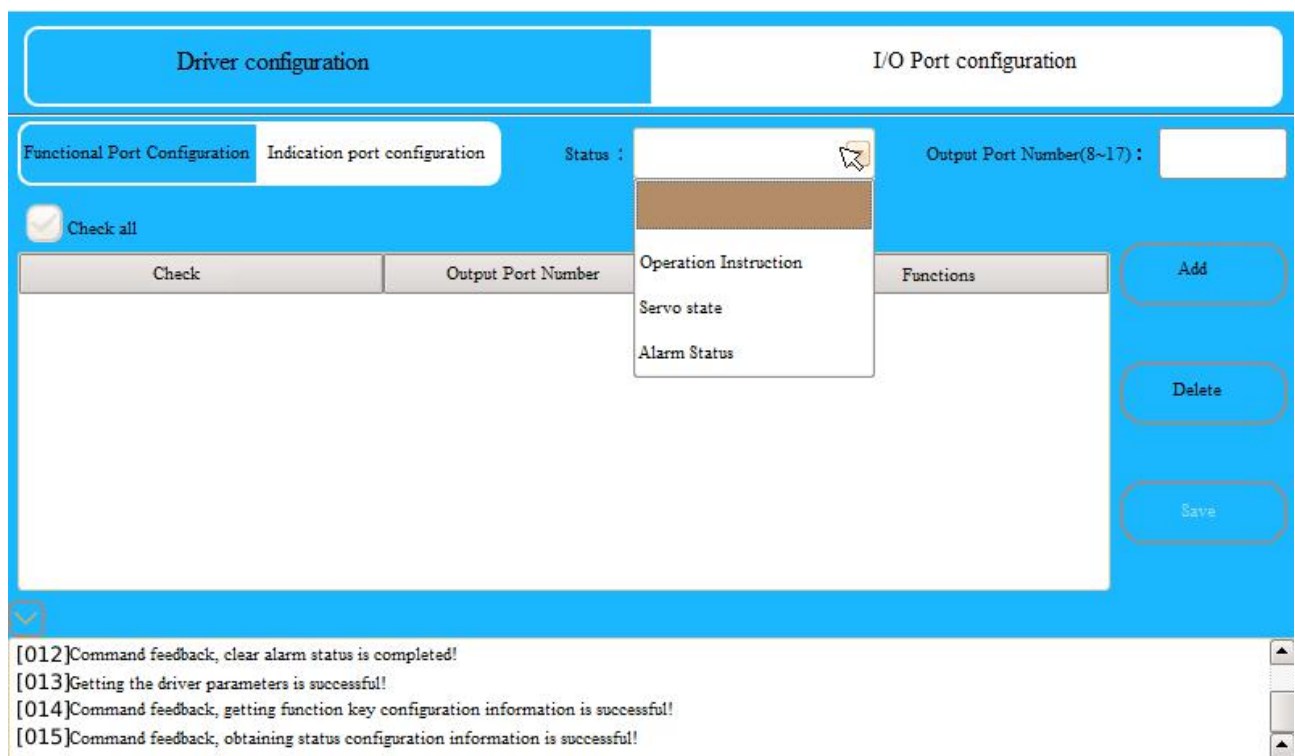

Fig. 3.4 Indication Port Configuration
(2) **Indication port configuration:** The control system provides three special functions of “Operation instruction”, “Servo status” and “Alarm status” for “8-17” 10-way “I/O output port” configuration, as shown in Fig. 3.4. The “I/O output port” configuration format is consistent with the “I/O input port” configuration function.”